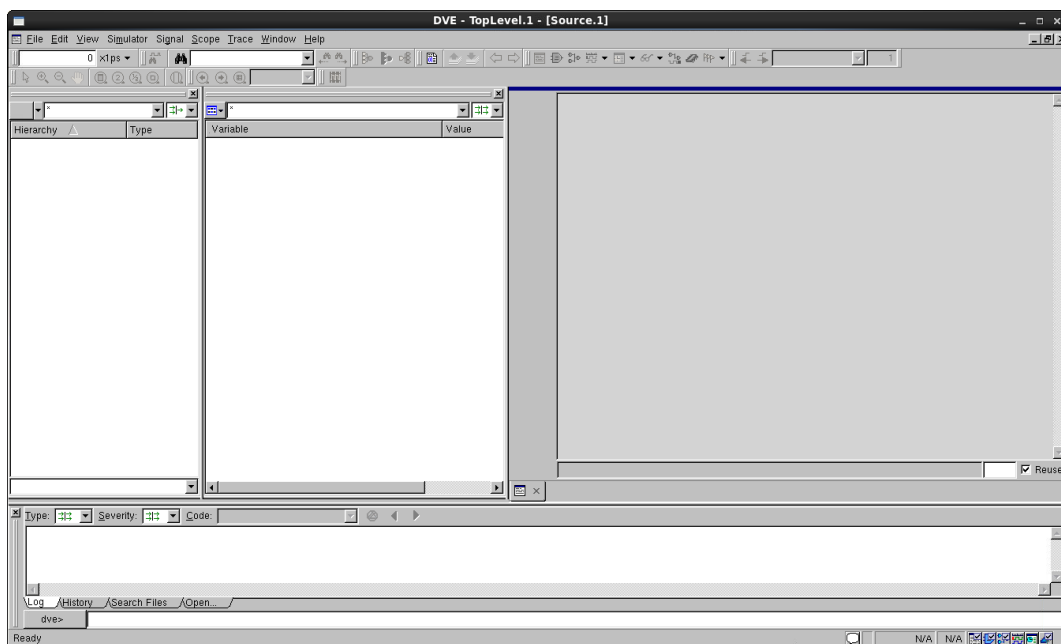

Figure 1: DVE graphical user interface.
1. If the simulation was successful, a waveform dumpfile named *tb_updown.vpd* should have been generated. To view this waveform, run DVE from the command line. This will open up a GUI window for the tool, as shown in Figure 1.